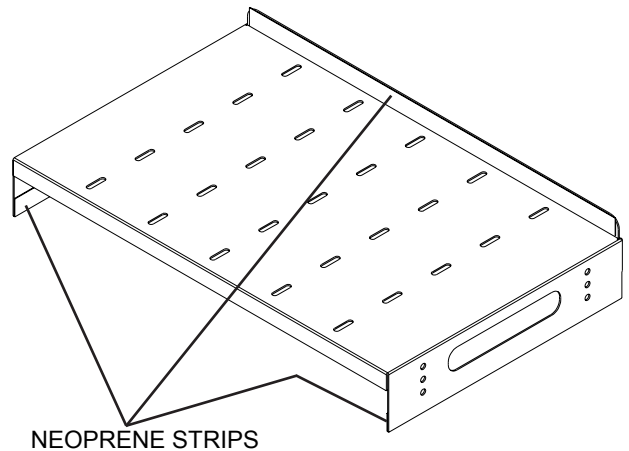

Figure 7.3b – Shelf
- Shelf: inside bottom of flanges and back lip of shelf, see Figure 7.3b.